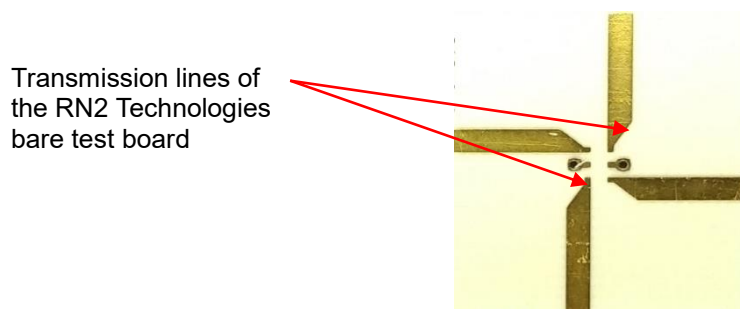

**Figure 6. RN2 Technologies Test Board Layout**
**Figure 6** shows the RN2 Technologies test board layout used for testing the CMX35P03 RF performance. The RN2 Technologies test board is based on the Taconic RF35 board with the dielectric constant of 3.5, board thickness of 0.8 mm, and copper of 1 Oz.
We recommend that you use the same material and design layout, as shown in **Figure 6**, to meet the specifications in this datasheet. However, if you use different materials, you must follow the basic guidelines. See ‘RECOMMENDED PCB LAYOUT AND SOLDER MASK PATTERN’ for more details.